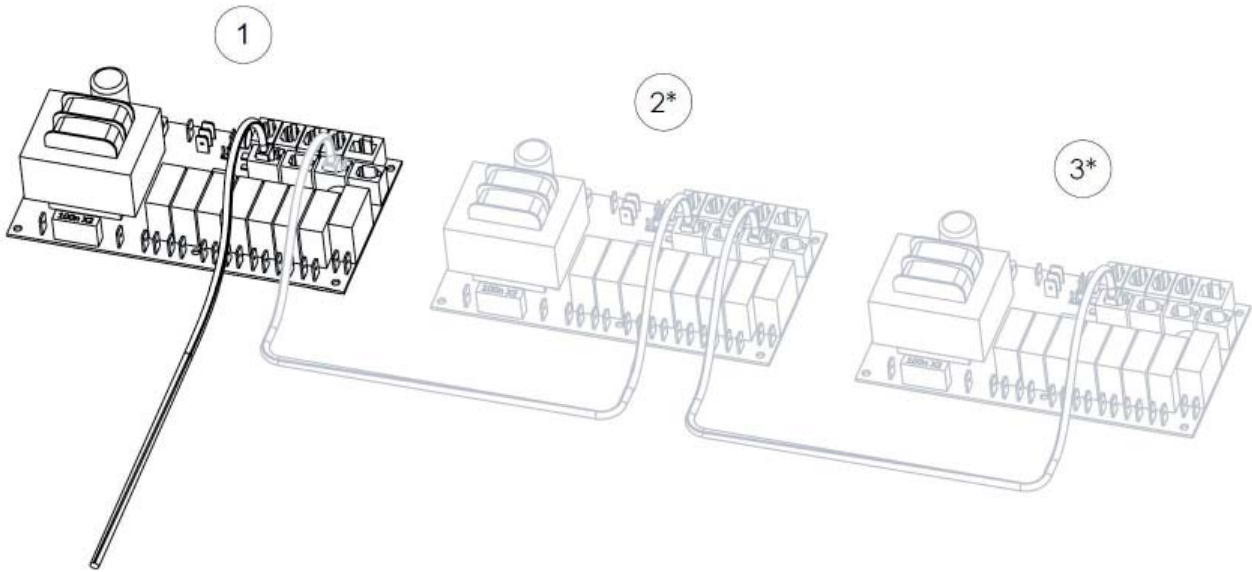

Fig. 16
The connections between the generators use a low power cable (4 core) with an RJ10 connector, (Fig. 16.) Refer to the section "Modular connector description" (Fig.17) for more information on the pin configuration.
If one steam generator needs servicing the others can remain in operation. One generator that is set as a secondary is disconnected by removing the cable from between the circuit boards. (Fig. 16)
2. Disconnect the cable that connects the control circuit boards (Fig. 16)